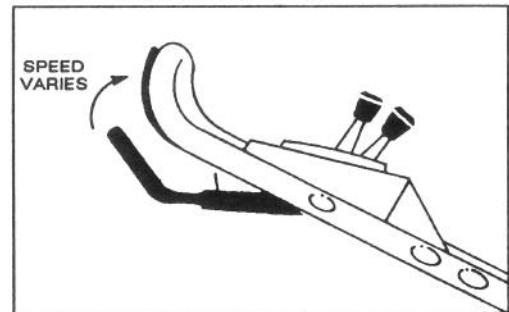

Figure 9
5. TRACTION OPERATION (self-propelled model) — Move ground speed control to desired setting and squeeze control bar against handle to drive. Ground speed varies, depending on space between control bar and handle (Fig. 9).